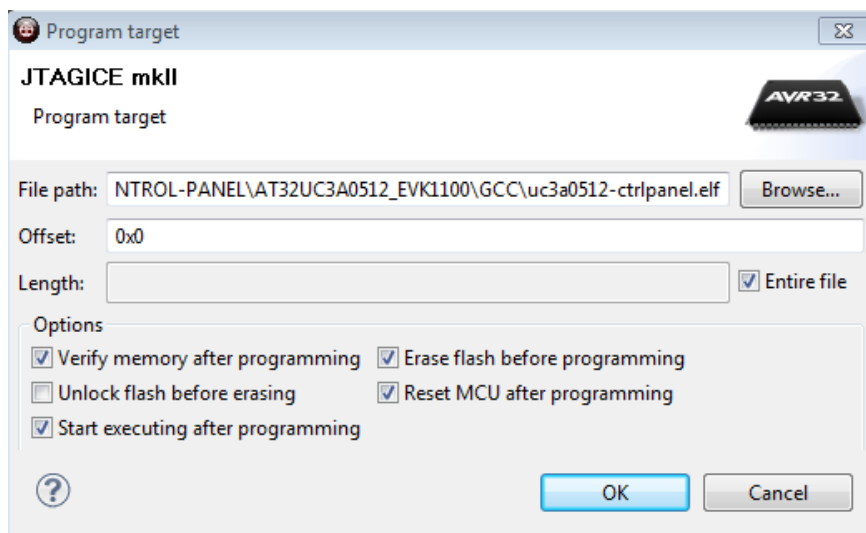

Figure 9. Elf file location
- Locate the .elf file in you Debug folder of you project as shown in Figure 9.